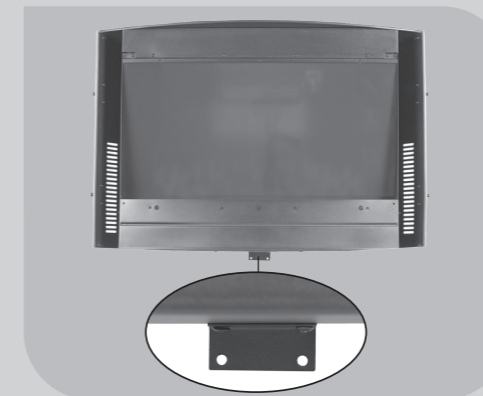

Fig.3
- Mark the bottom holes position (Fig.3); remove the heater ensuring that the bottom fixing bracket is rotated up.